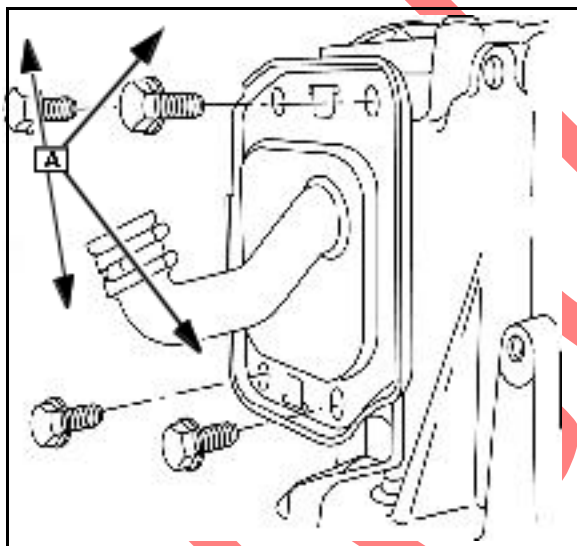

Fig. 33
3. Install cover ([A] Fig. 33) with new gasket. Torque screws to listed value.